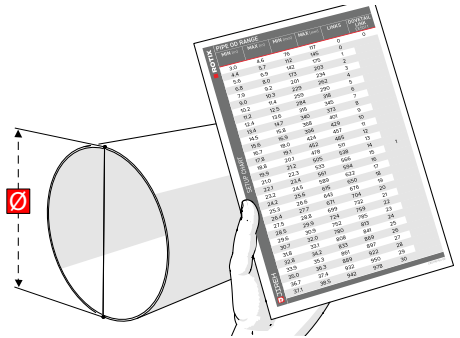

Fig. 74 - Refer to setup chart
1. Determine the diameter of the pipe or tube to be scanned. Included in the **ROTIX** kit and this manual is a setup chart indicating the number of links required based on the diameter of the pipe or tubing (*Fig. 74*).